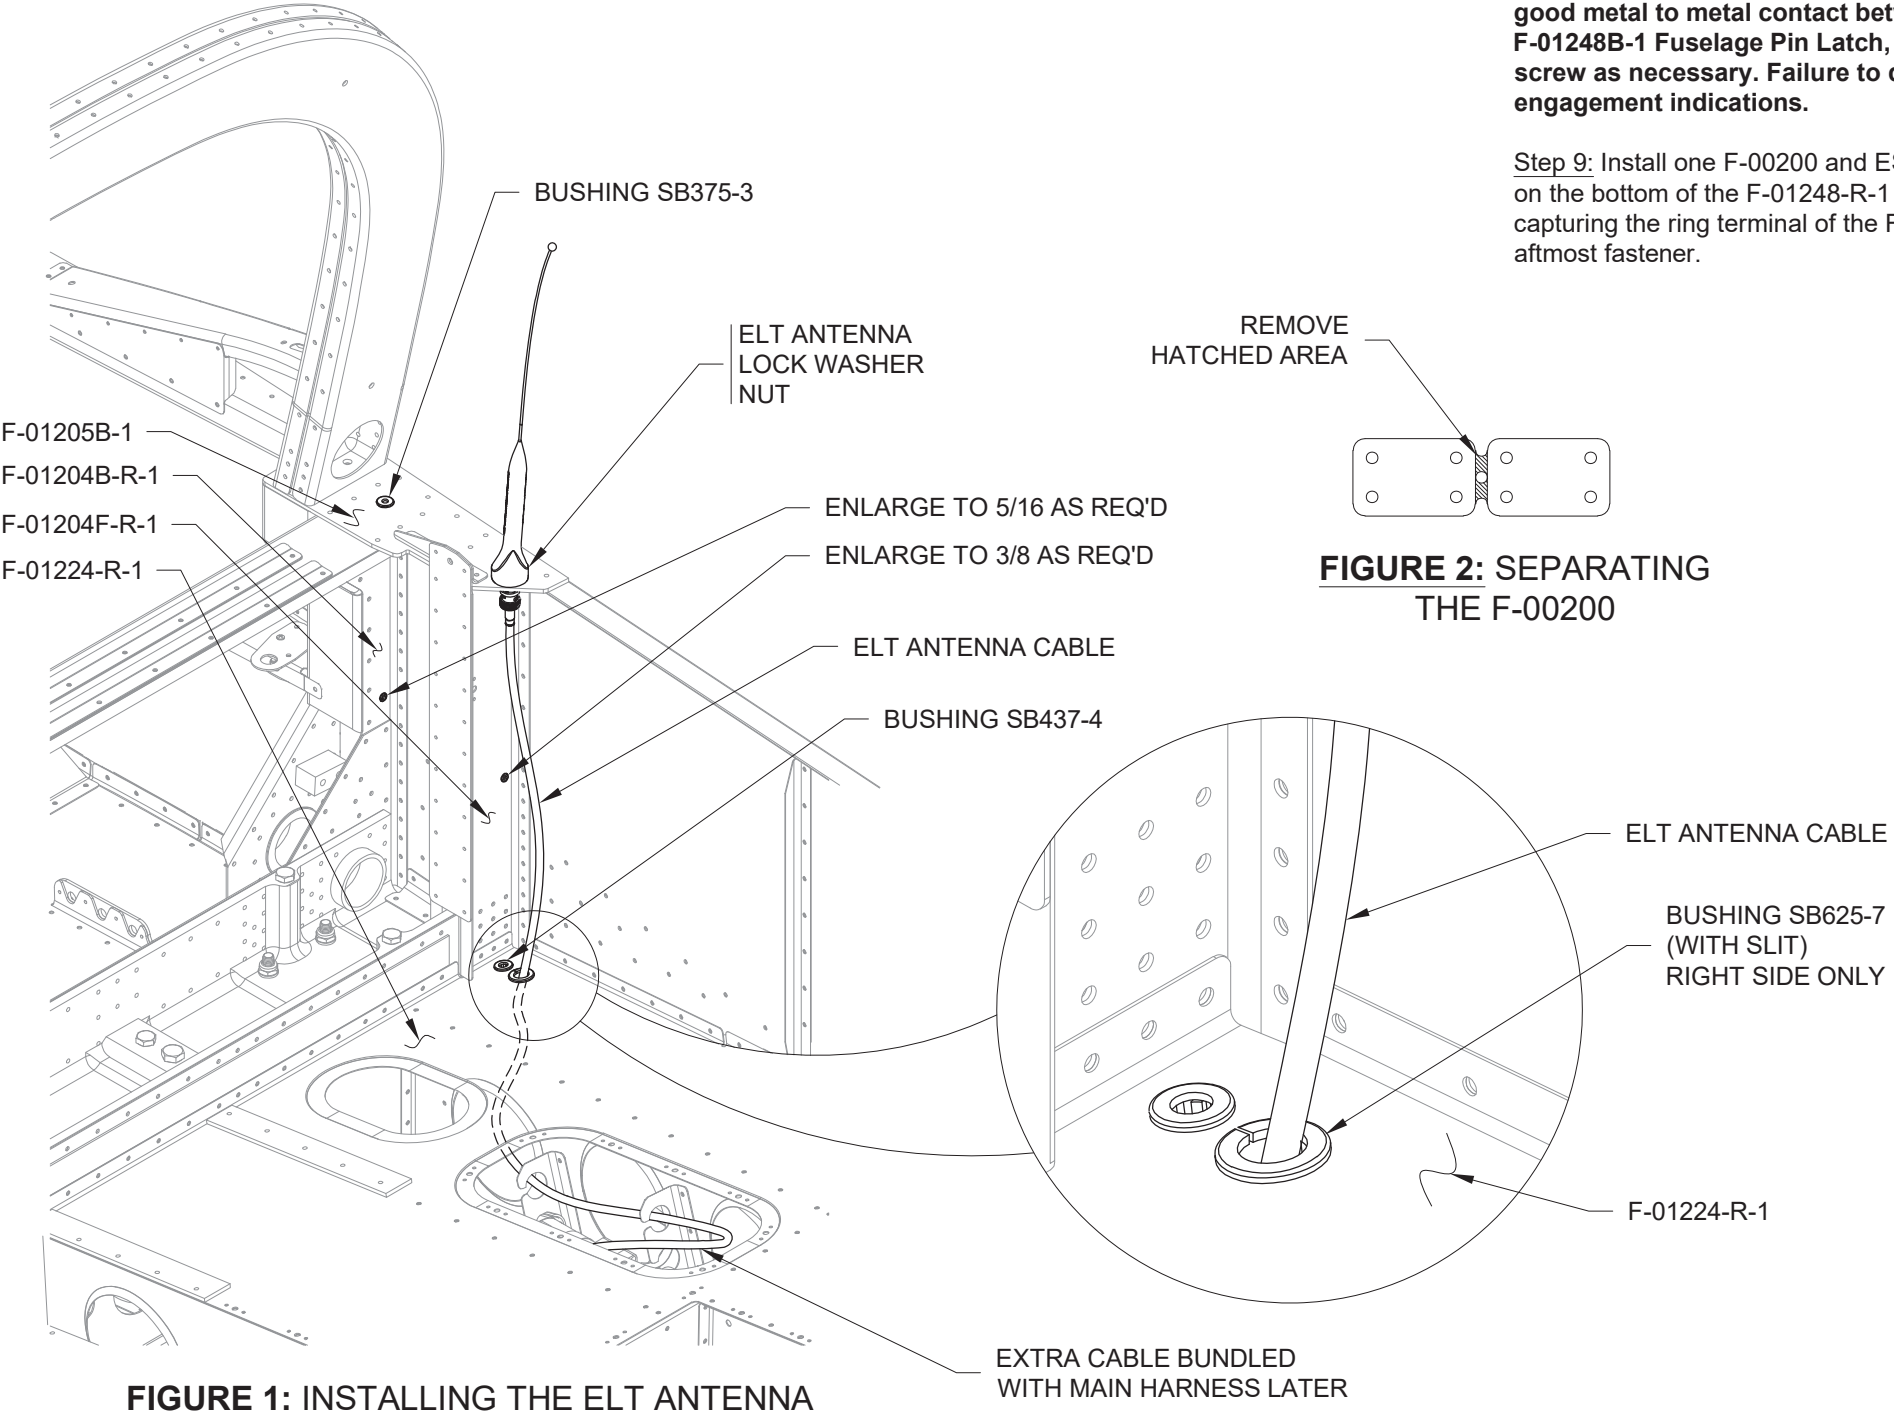

FIGURE 1: INSTALLING THE ELT ANTENNA
Step 3: Cut a slit in the snap bushing, allowing the snap bushing to be put over the ELT antenna cable, then snap the bushing into the hole in the F-01224-R-1 baggage floor as shown in the detail view of Figure 1.
Step 4: Install the snap bushing SB375-3 as shown in Figure 1.
Step 5: Install the snap bushing shown in Figure 1 in the F-01224-R-1. Repeat for the left side of the aircraft.
Step 6: If required, enlarge the holes as shown in Figure 1 and the detail view of Figure 3. Repeat for the left side of the aircraft